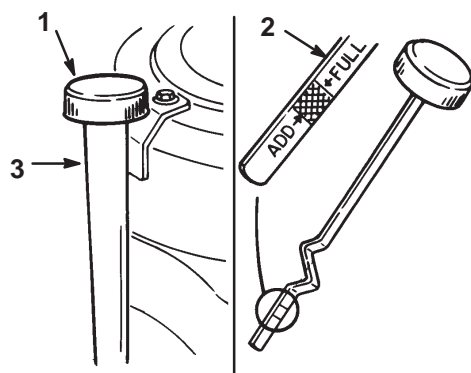

Figure 30
3. Clean around the oil dipstick (Fig. 30) so dirt cannot fall into the filler hole and damage the engine.
4. Unscrew the oil dipstick and wipe the metal end clean (Fig. 30).
5. Screw the oil dipstick fully onto the filler tube (Fig. 30). Unscrew the dipstick again and look at the metal end. If oil level is low, slowly pour only enough oil into the filler tube to raise the level to the “FULL” mark.
6. Slowly pour approximately 80% of the specified amount of oil into the filler tube (Fig. 30). Now check the oil level; refer to Checking Oil Level, page 30, steps 4–5.